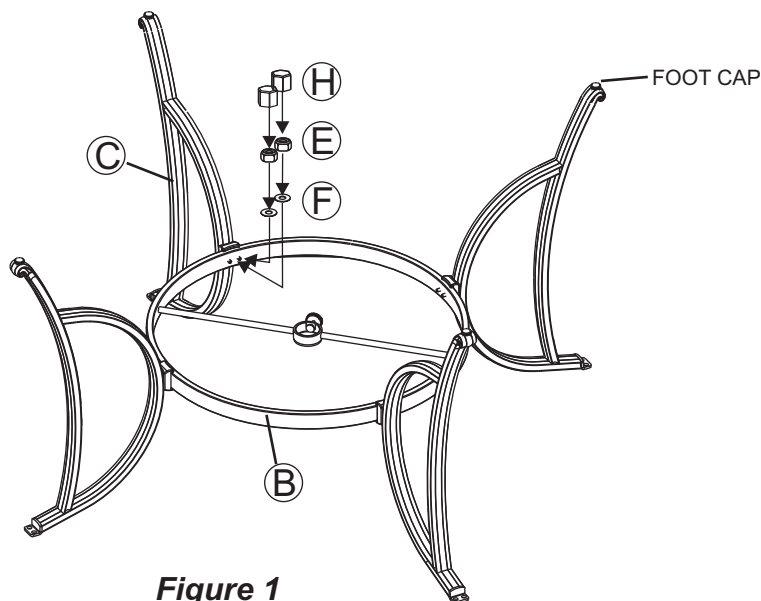

Figure 1
1 **Important: We recommend 2 people work together to assemble the chair.** Note the arrow labels on the "U" bar and the rocker assembly. Also note the horseshoe shape of the rocker plate. Point the open end of the horseshoe away from you. The arrows on the rocker assembly should be pointing towards you. Set the chair frame on the rocker assembly with front of the seat facing you and the arrows on the "U" bar pointing towards you as shown in **Figure 1**. This is very important for a safe, balanced rocking motion. **If chair frame has been properly positioned on the rocker assembly, all arrows on the "U" bar and rocker assembly will be pointing in the same direction.**
- 1 Attach a leg to the leg connector bracket by carefully guiding the bolts already in place on the table legs (each leg has two bolts) through the holes in the leg connector bracket. Add a washer and a nut to the end of each bolt as shown in **Figure 1**. **Hand tighten only**. Repeat on the other three legs.